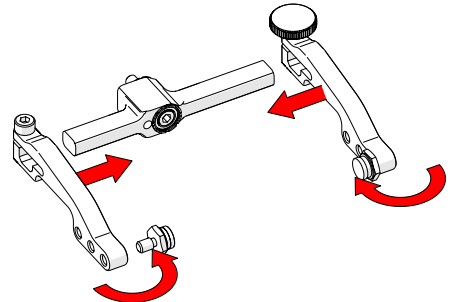

Fig. 119 - Attach arms & move buttons
5. Place the pivot buttons on the inside of the probe holder arms (Fig. 119) using a 3/8 in wrench (Fig. 24).